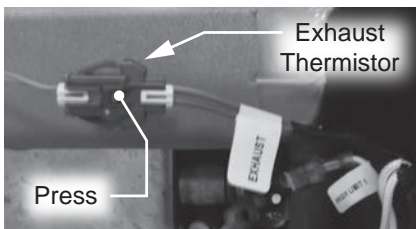

Figure 143 - Disconnecting exhaust thermistor
- 32 Locate and disconnect the exhaust thermistor wire harness at the secondary heat exchanger. See Figure 143.